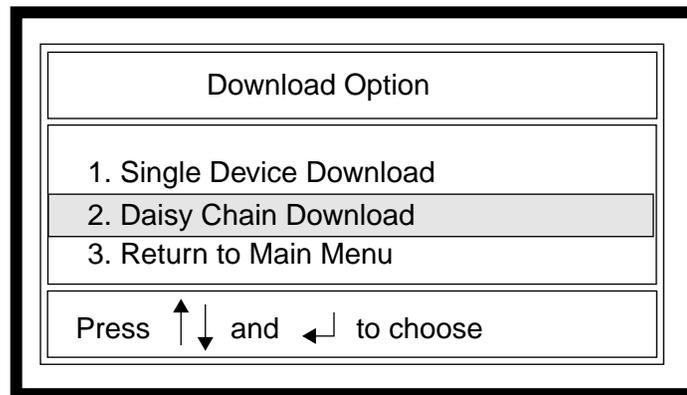

Figure 3-61. Download Option Screen
1. Type **6** or **E** from the IDCD menu (Figure 3-61). The Download Option screen appears (Figure 3-61).